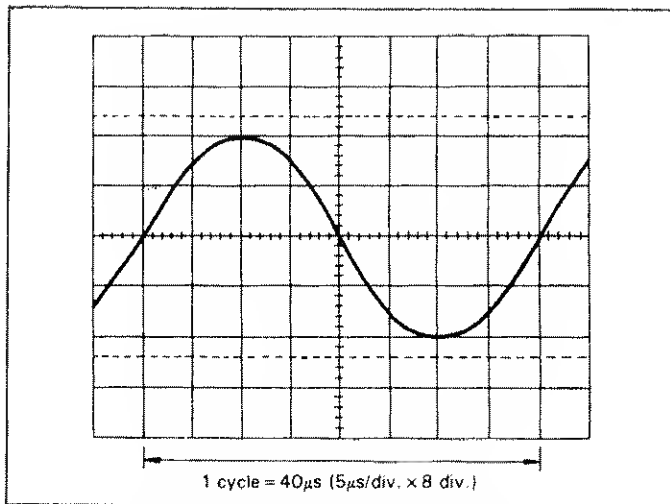

Fig. 9. Frequency Measurement.
(Refer to Fig. 9)
1. Set up the oscilloscope to display one cycle of waveform (see Fig. 9).
In the example shown in Fig. 9, a period of 40 μs is observed. Substituting this value into the above equation, the frequency is calculated as follows: